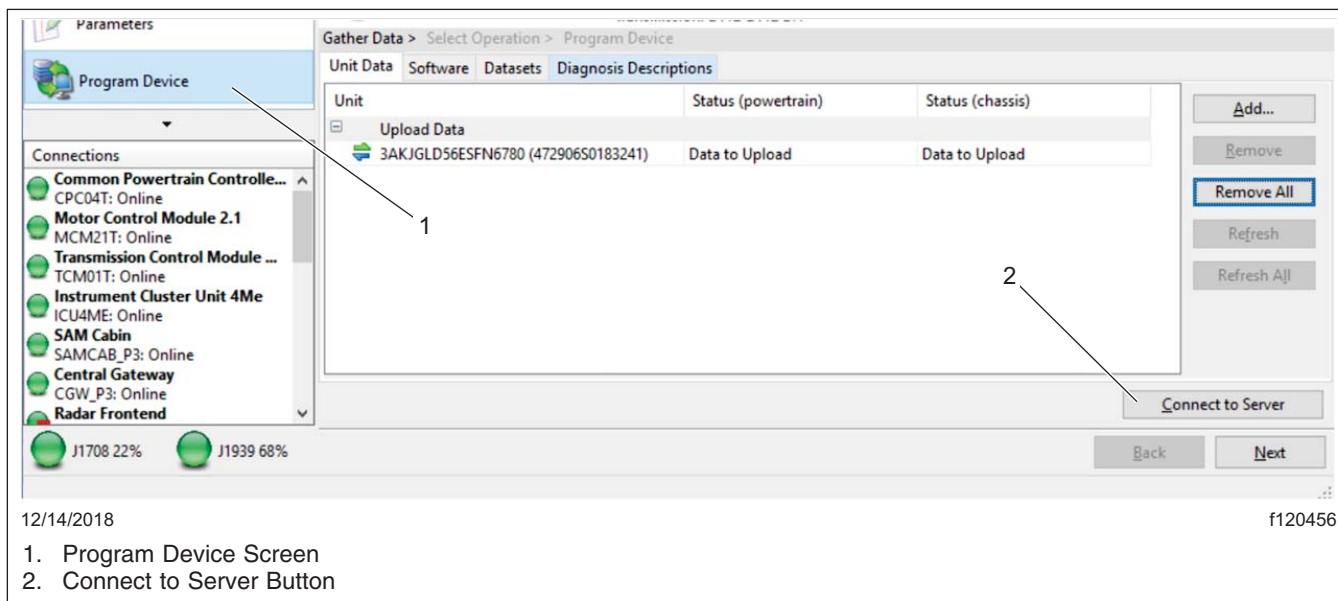

Fig. 13, Connecting to Server Screen
10. Select 'Program Device.' See Fig. 13, item 1. There should be data to upload. Select 'Connect to Server' to upload vehicle parameters to the server. See Fig. 13, item 2.
18. Select 'Program Device.' See Fig. 13, item 1. There should be data to upload. A 'Data to Upload' item appears in the 'Unit Data' window. Select 'Connect to Server' to upload vehicle parameters to the server. See Fig. 13, item 2.